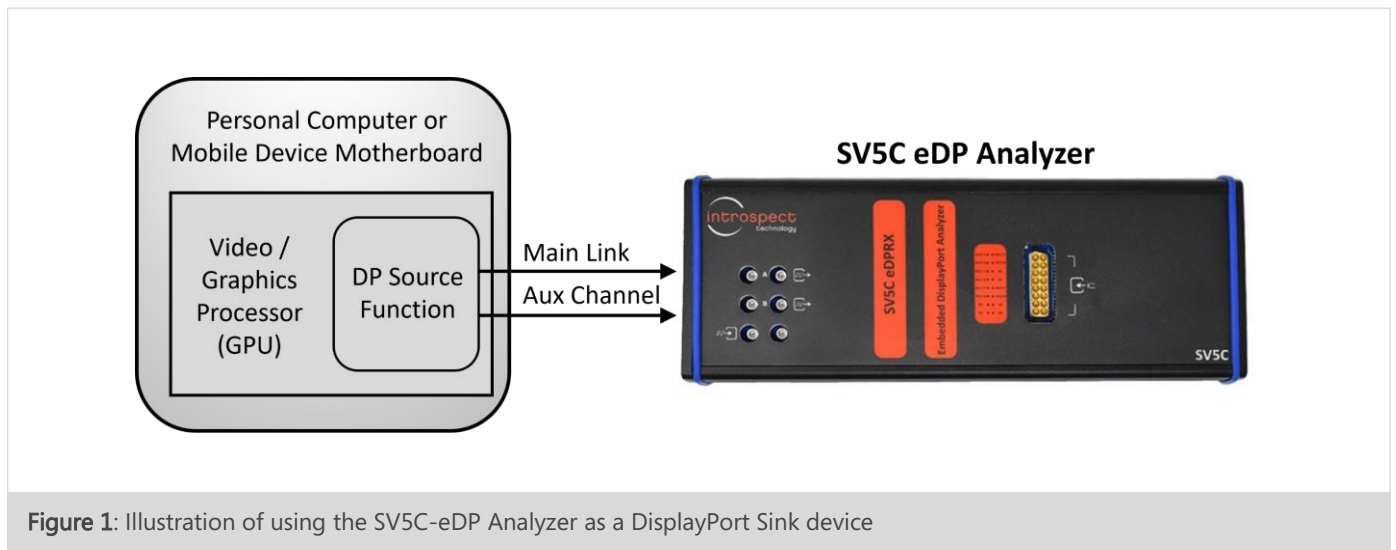
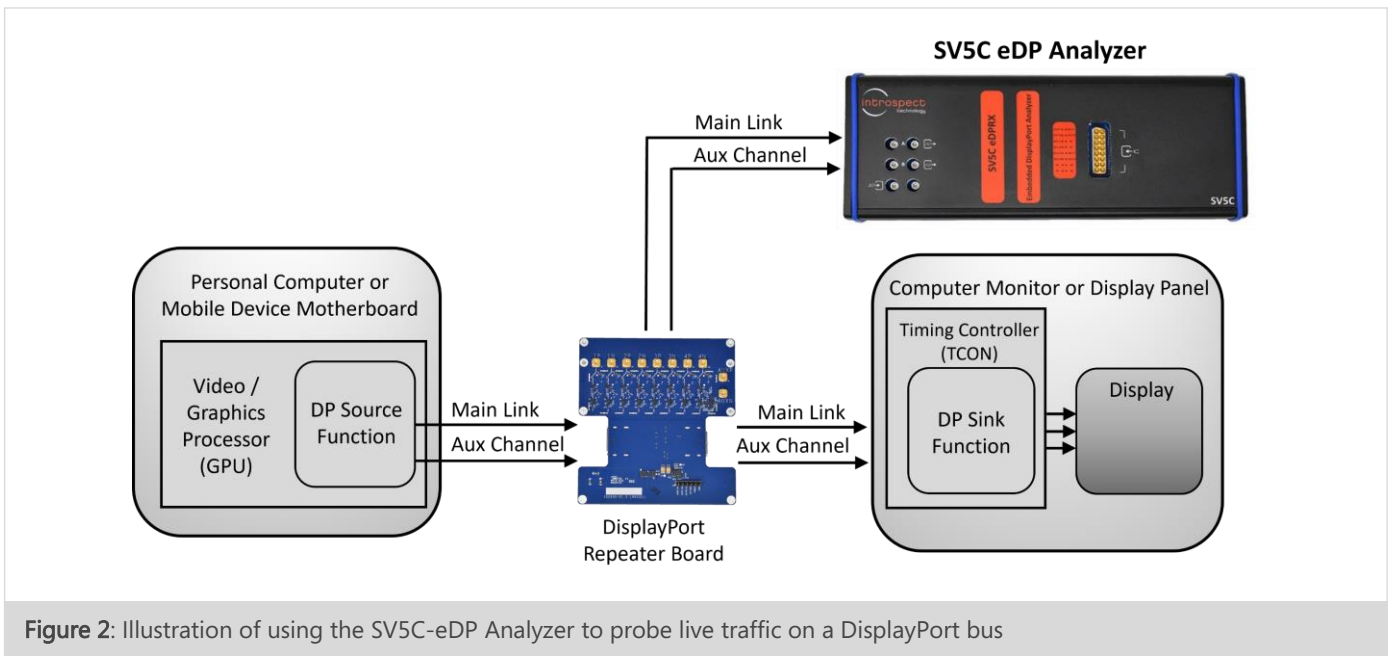
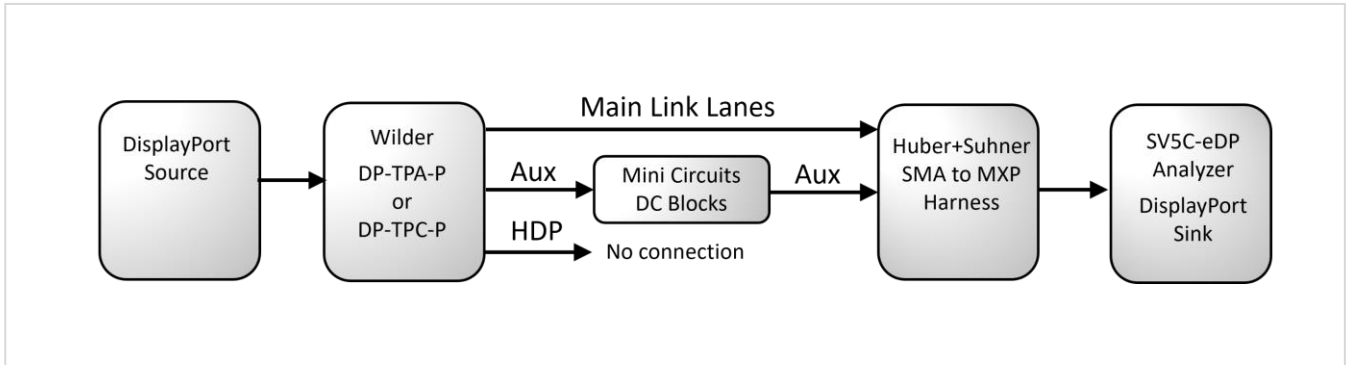
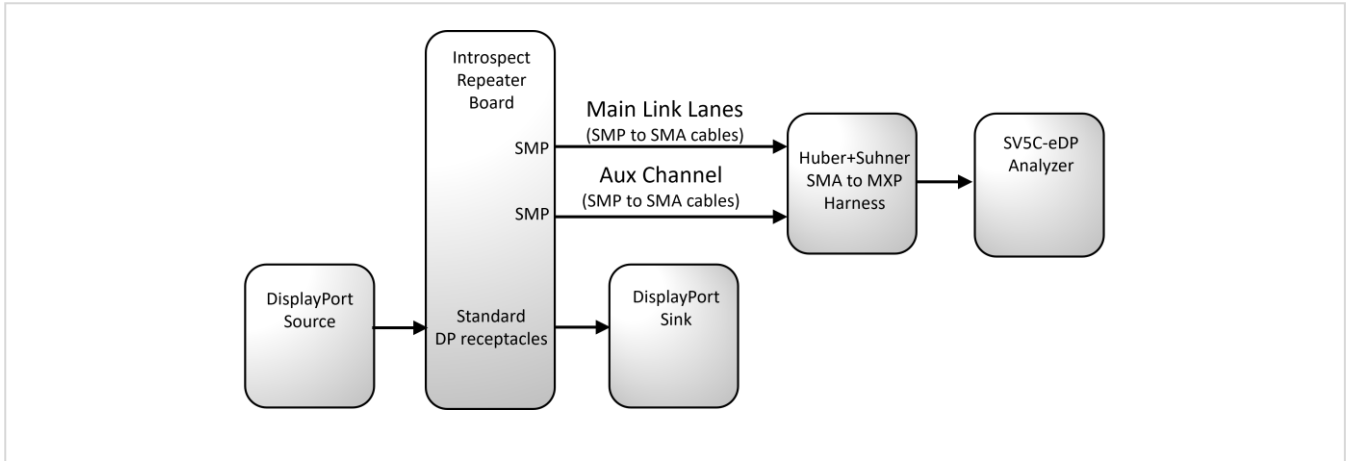

Figure 1: Illustration of using the SV5C-eDP Analyzer as a DisplayPort Sink device
Figure 2: Illustration of using the SV5C-eDP Analyzer to probe live traffic on a DisplayPort bus
Figure 4: Detailed connection diagram for Setup # 1
Figure 5: Detailed connection diagram for Setup # 2
An example of using the SV5C-eDP Analyzer directly as a DisplayPort Sink device is shown in the high-level diagram in Figure 1. This Quick Start Guide will provide the information required for a user to get up and running with the setup as shown in the figure. Basic hardware and software installation instructions are included followed by a step-by-step procedure to start analyzing DisplayPort traffic.
An example of using the SV5C-eDP in a probing application is shown in a high-level diagram in Figure 2. This Quick Start Guide will also provide the information required for a user to get up and running with the setup as shown in this figure. In this case, a personal computer (PC) can be used as the DisplayPort Source, and a computer monitor can be used as the DisplayPort Sink. An Introspect DisplayPort Repeater board is connected between the DisplayPort Source and Sink, which connects to the SV5C-eDP Analyzer as shown.
In the sections of the document which follows, the direct DisplayPort connection as shown in Figure 1 will simply be referred to as "Setup # 1", and the probing connection as shown in Figure 2 will be referred to as "Setup # 2". A full listing of the hardware requirements for both setups is provided. The required connections will be provided for both cases.
A high-level block diagram for a test configuration using the SV5C-eDP Analyzer as a DisplayPort Sink device was shown in Figure 1. A detailed connection diagram is provided in Figure 4 below, with connections provided in Table 2. The complete parts list is given on page 5.
A high-level block diagram for a test configuration using the SV5C-eDP Analyzer as a probing solution was shown in Figure 2. A detailed connection diagram is provided in Figure 5 below, with connections provided in Table 3. The complete parts list is given on page 5.
For Setup # 1, a direct DisplayPort connection, please refer to the high-level diagram as shown in Figure 1, as well as the detailed pinouts and diagrams as shown in Figure 4 and Table 2. Please also ensure that the provided 12 V power supply to the SV5C-eDP module and USB 2.0 and 3.0 cables to the PC are in place.
For Setup # 2, a DisplayPort probing application, please refer to the high-level diagram in Figure 2, as well as the detailed pinouts and diagrams as shown in Figure 5 and Table 3. Please also ensure that the provided 12 V power supply to the SV5C-eDP module and USB 2.0 and 3.0 cables to the PC are in place.